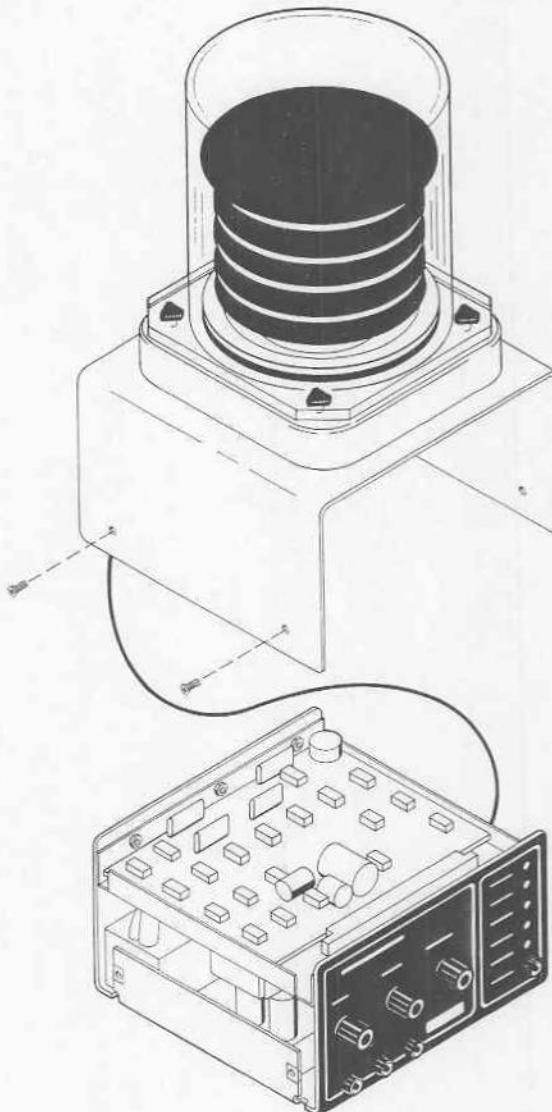

Figure 4-7
1. Unplug the line cord. Remove the four Phillips-head screws that fasten the cover panel in place, then lift off the cover panel, (Figure 4-7).
2. Remove the four Phillips head screws that fasten the cover panel in place. Lift off the cover panel, (Figure 4-7).